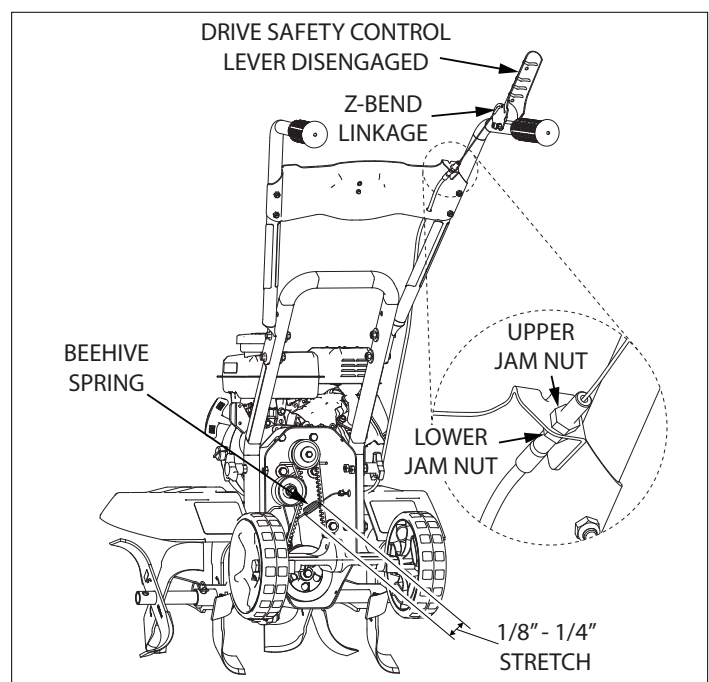

FIGURE 8
1. Loosen upper jam nut. **SEE FIGURE 8**
3. Check adjustment by measuring the beehive spring extension when drive lever is engaged. (Proper spring extension is 1/8" - 1/4") **SEE FIGURE 8**